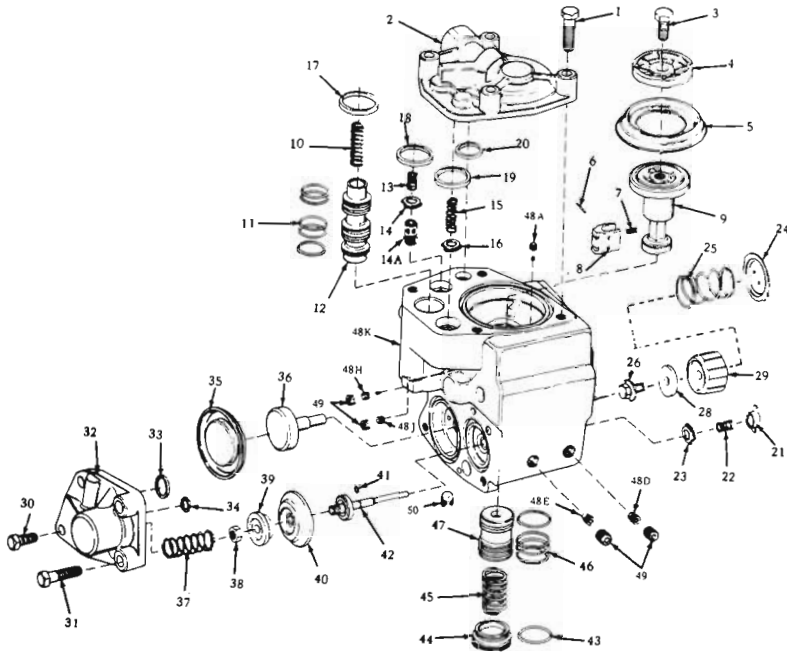

Figure 23
9.3 "ABD" Control Valve Emergency Portion Parts (See Figure 23)